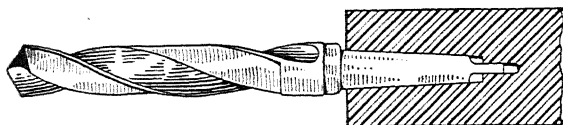

FIG. 152.
**160. Tapers.**—One of the most important principles in machine-shop practice is that involved in taper work, particularly the round taper shank and the round taper hole (Fig. 152).